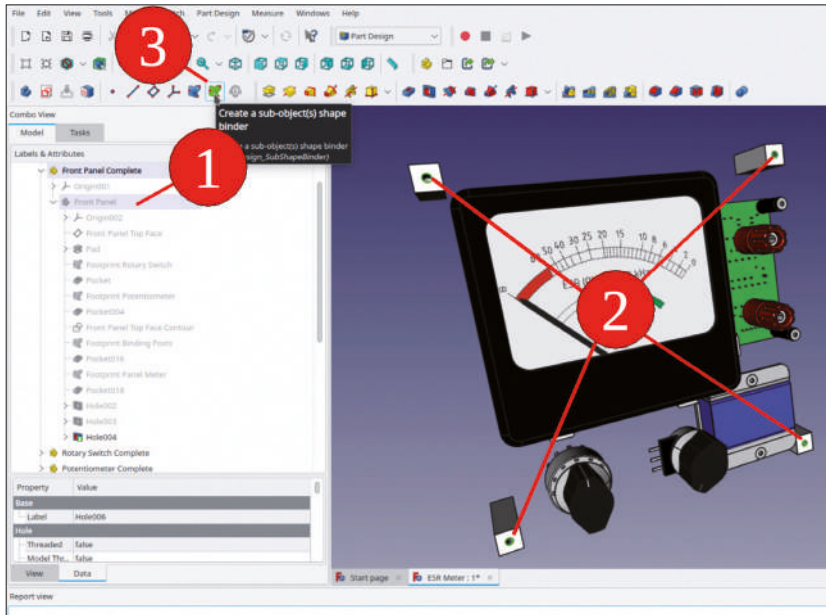

Figure 7-71
23. In the 3D view, mark the edges of the mounting holes in the casing spacers. Then, click the green 'Create a sub object(s) shape binder' tool button (Figure 7-71).